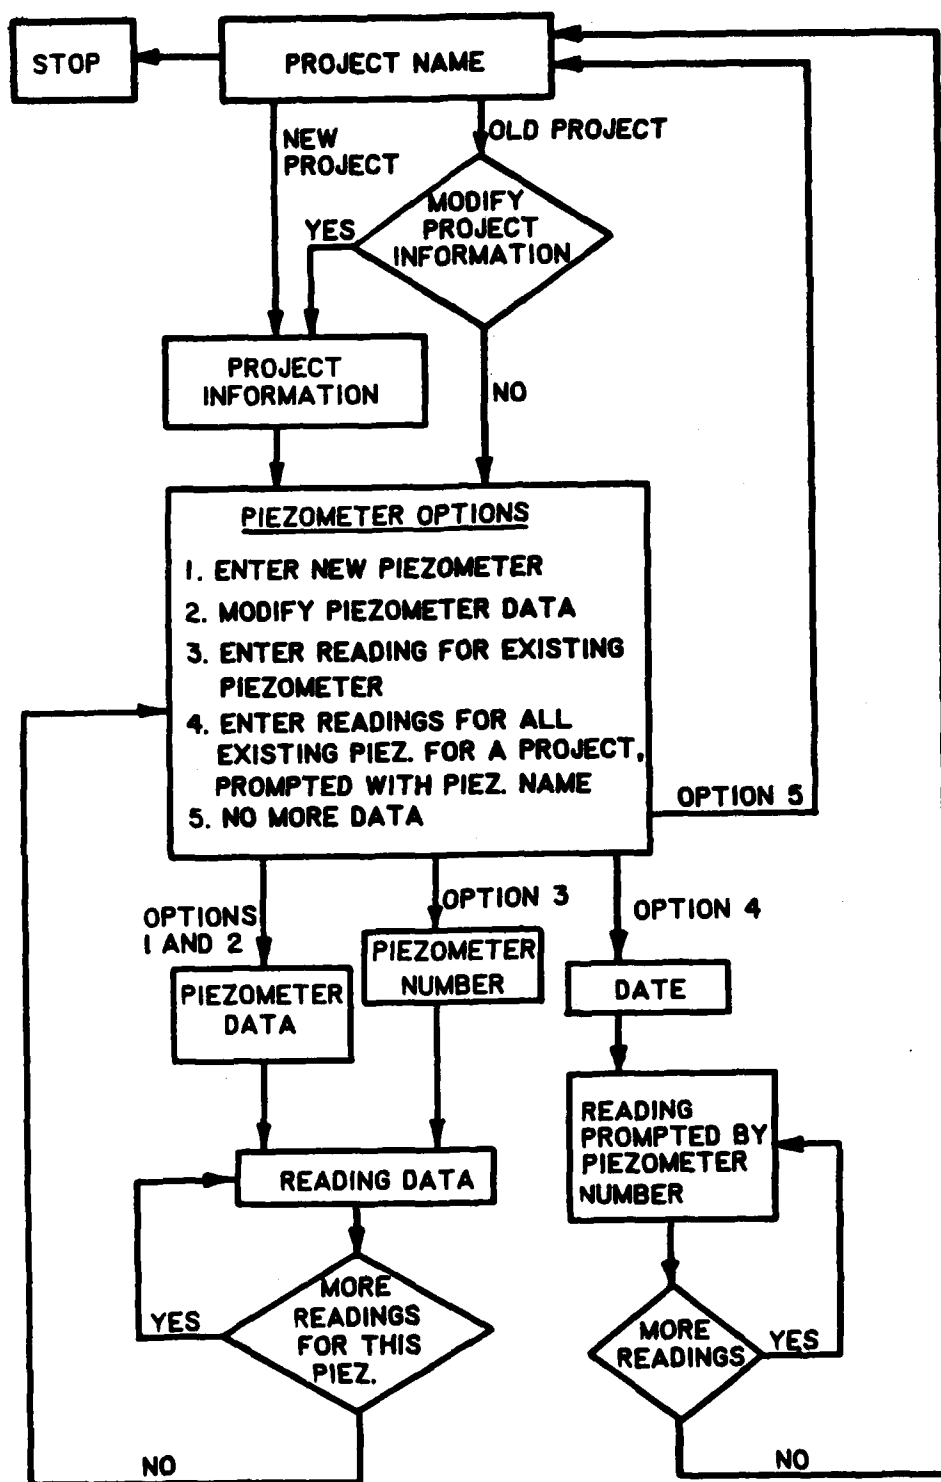

Figure 2. Schematic for piezometer collect program
23. The schematic of the collection program (Figure 2) illustrates how the system works. The first question the system asks the user is "Do you want shortened prompts?" The answer to this question will determine which prompts, the full length or the short ones with a maximum six characters, are used for the current session of the collection program. The user should be well acquainted with the program before using the shortened prompts option. The next